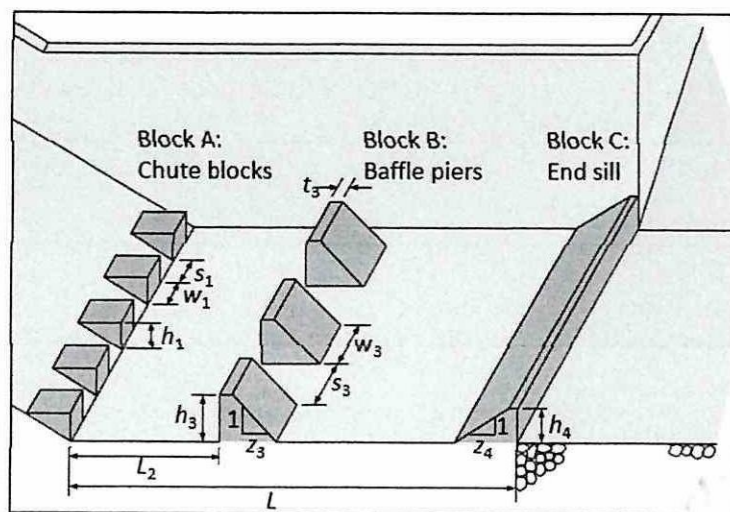
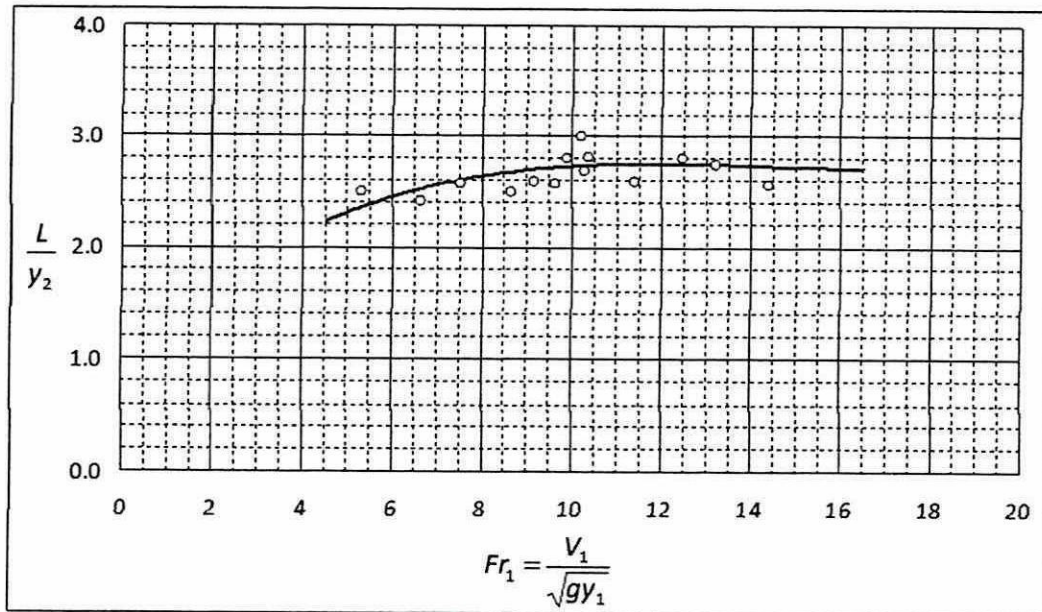

Figure Q3.1
Figure Q3.2
- (d) A  $6 \text{ m}$  width spillway discharges  $120 \text{ m}^3/\text{s}$  of water from a reservoir. The head of water above the spillway crest is  $5.0 \text{ m}$  while the water depth in front of the dam is at  $72 \text{ m}$ . Movement of flow towards downstream of the spillway has produced a very high kinetic energy and to reduce this energy, an energy dissipator structure is proposed. (Please refer information in **Table Q3.1**, **Figure Q3.1** and **Figure Q3.2**)